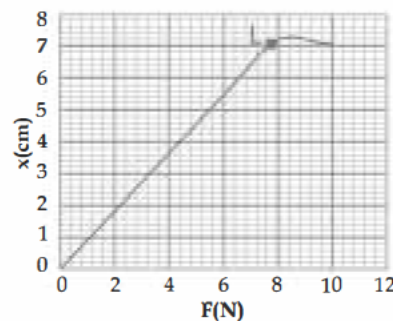

Fig 5.14
2. The variation in extension x of the force F for a spring is shown in Fig 5.14. The point L on the graph is the elastic limit of the spring.